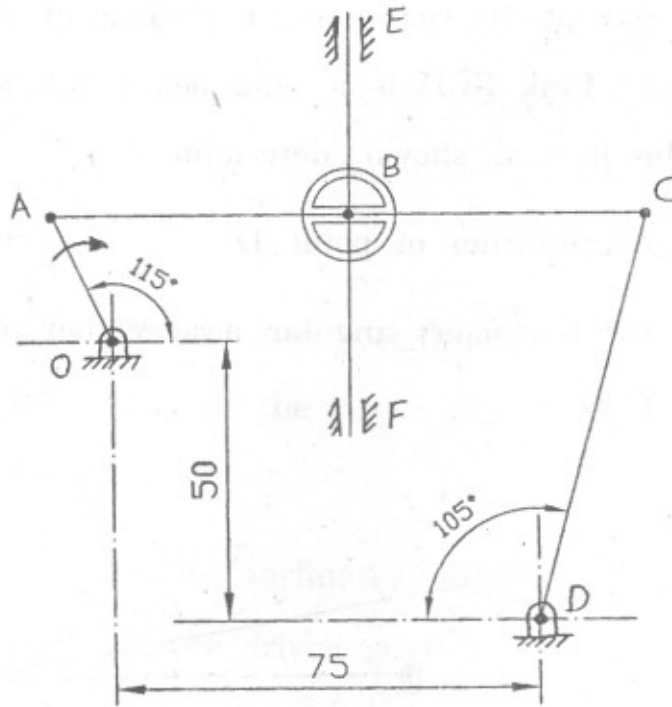

Fig. 3
5. The Fig. 3 shows a mechanism in which crank OA is rotating clockwise at 10 rad/s. At the instant shown, the coupler AC is horizontal and freely slides in a slotted trunnion B. The slotted trunnion is carried on the second link EF which is freely slides vertically in the guides. Hence determine :